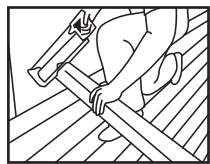

Figure 2
3. When properly positioned, mark rail and cut (Figure 2). Lay top rail beside bottom rail, aligning spindle holes, mark and cut to match length.